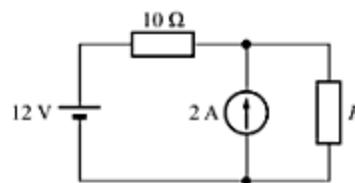

Fig. 3.65
6. For the circuit shown in Fig. 3.65, determine the current in the  $10\Omega$  resistor for  $R = 6\Omega$ , using node-voltage analysis.